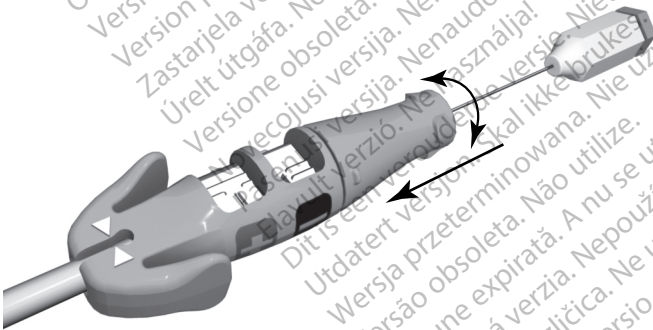

Figure 4. Connector Tool fixation knob engaged
- Grasp the Connector Tool and the terminal boot molding. To engage the fixation knob on the terminal pin, push the fixation knob toward the Connector Tool body to close the gap. Rotate the fixation knob clockwise to extend the helix or counterclockwise to retract it. Visually observe the helix extending and retracting (Figure 4 Connector Tool fixation knob engaged on page 17).